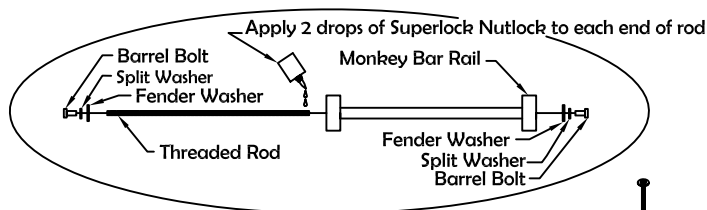

FIG. 5
**Step 1:** Gather Top Ladder 'B', End Ladder 'C', (2) Triangle Braces & (1) Bottle of SuperLock Nutlock®
**Step 2:** Secure Top Ladder Rails & End Ladder Rails with Barrel Bolts & Threaded Rods. (See fig. 5 & fig. 6)